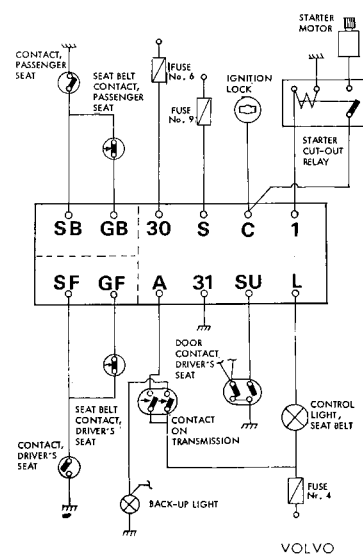

Fig. 3-101. Interlock Control System, wiring diagram
A relay in the Interlock Control Unit is governed by the indications from the driver's side and the passenger's side. When the seat belt is used correctly, the relay closes the circuit from "C" to "1" (relay rest position), and the engine can be started. See Fig. 3-101, pos. 1.